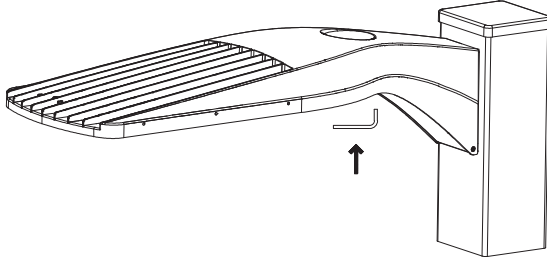

Fig 9
2. Lock the bracket box cover and pole top cover firmly (Fig 9).